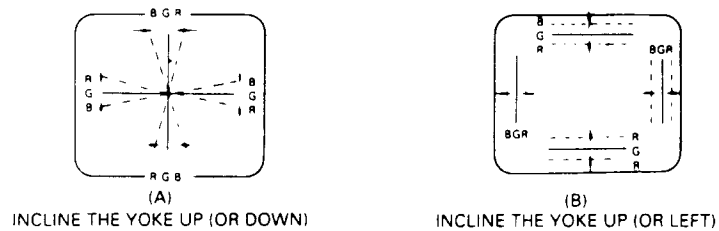

FIG. 2 CIRCUMFERENCE CONVERGENCE BY DEF. YOKE
3. Tilt the deflection yoke up and down, and insert tilt adjustment wedges 1 and 2 between the deflection yoke and the CRT until the mis-convergence illustrated in figure. 2 (A) has been corrected.
4. Tilt the deflection yoke right and left, and insert tilt adjustment wedge 3 between the deflection yoke and the CRT until mis-convergence illustrated in figure. 2 (B) has been corrected.